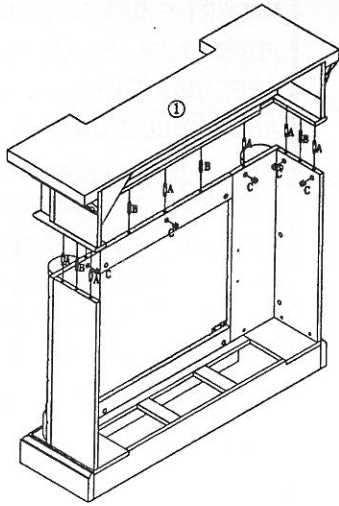

Figure 4
INSERT 7PCS CAM BLOT (A) AND 4PCS WOOD DOWEL (B) INTO PREDRILLED HOLES OF TOP PANEL(1),AND THEN INSERT 7PCS CAM-LOCK(C) INTO BIG HOLES OF SIDE PANEL AND FRONT PANEL AND UPPER FRONT PANEL(2.3.4) TO ASSEMBLE TOP PANEL(1) AND PREASSEMBLED FRAME TOGETHER.AS FIGURE4 SHOWN.